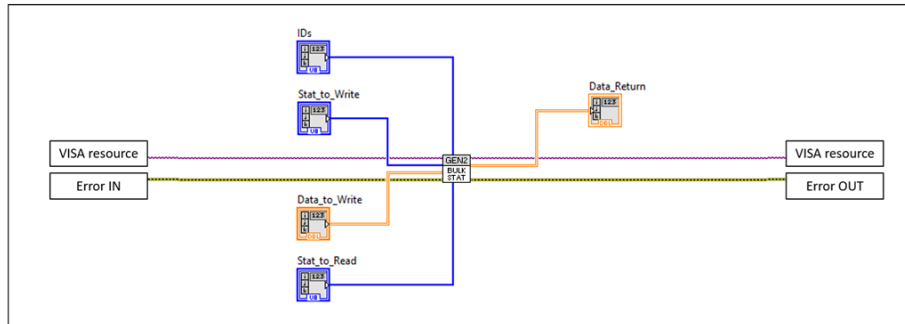

Figure 17: Bulk read/write with status registers.
- 3) **Bulk Communication** Writing to/reading from multiple **status** registers of one or more BEAR actuators can be done with the *Bulk_Stat* subVI conventionally all at once. Use this function as shown in figure 17.